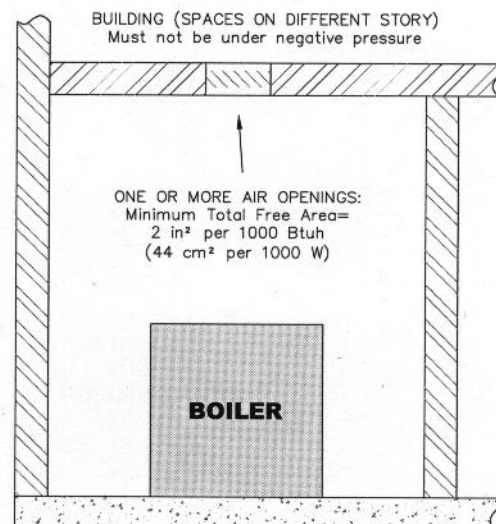

Figure 1.2: Air Openings – All Air from Indoors on Different Floors
- b. **Combining spaces on different floors:** Provide one or more permanent openings communicating with additional spaces that have a total minimum free area of 2 in2 per 1000 Btu/hr (44 cm2 per 1000 W) of total input rating of all equipment. See Figure 1.2 for an illustration of this arrangement.